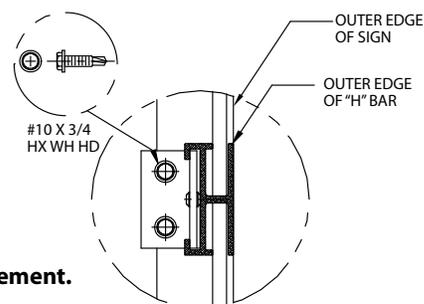

Fig. 3
7. Install "H" bar assemblies by using (2) #10 x 3/4 HX WH HD. (Fig. 3) Line up outer edge of the "H" Bar with outer edge of sign. Refer to the Engineering Drawing for precise measurements of each "H" Bar spacing and locations.